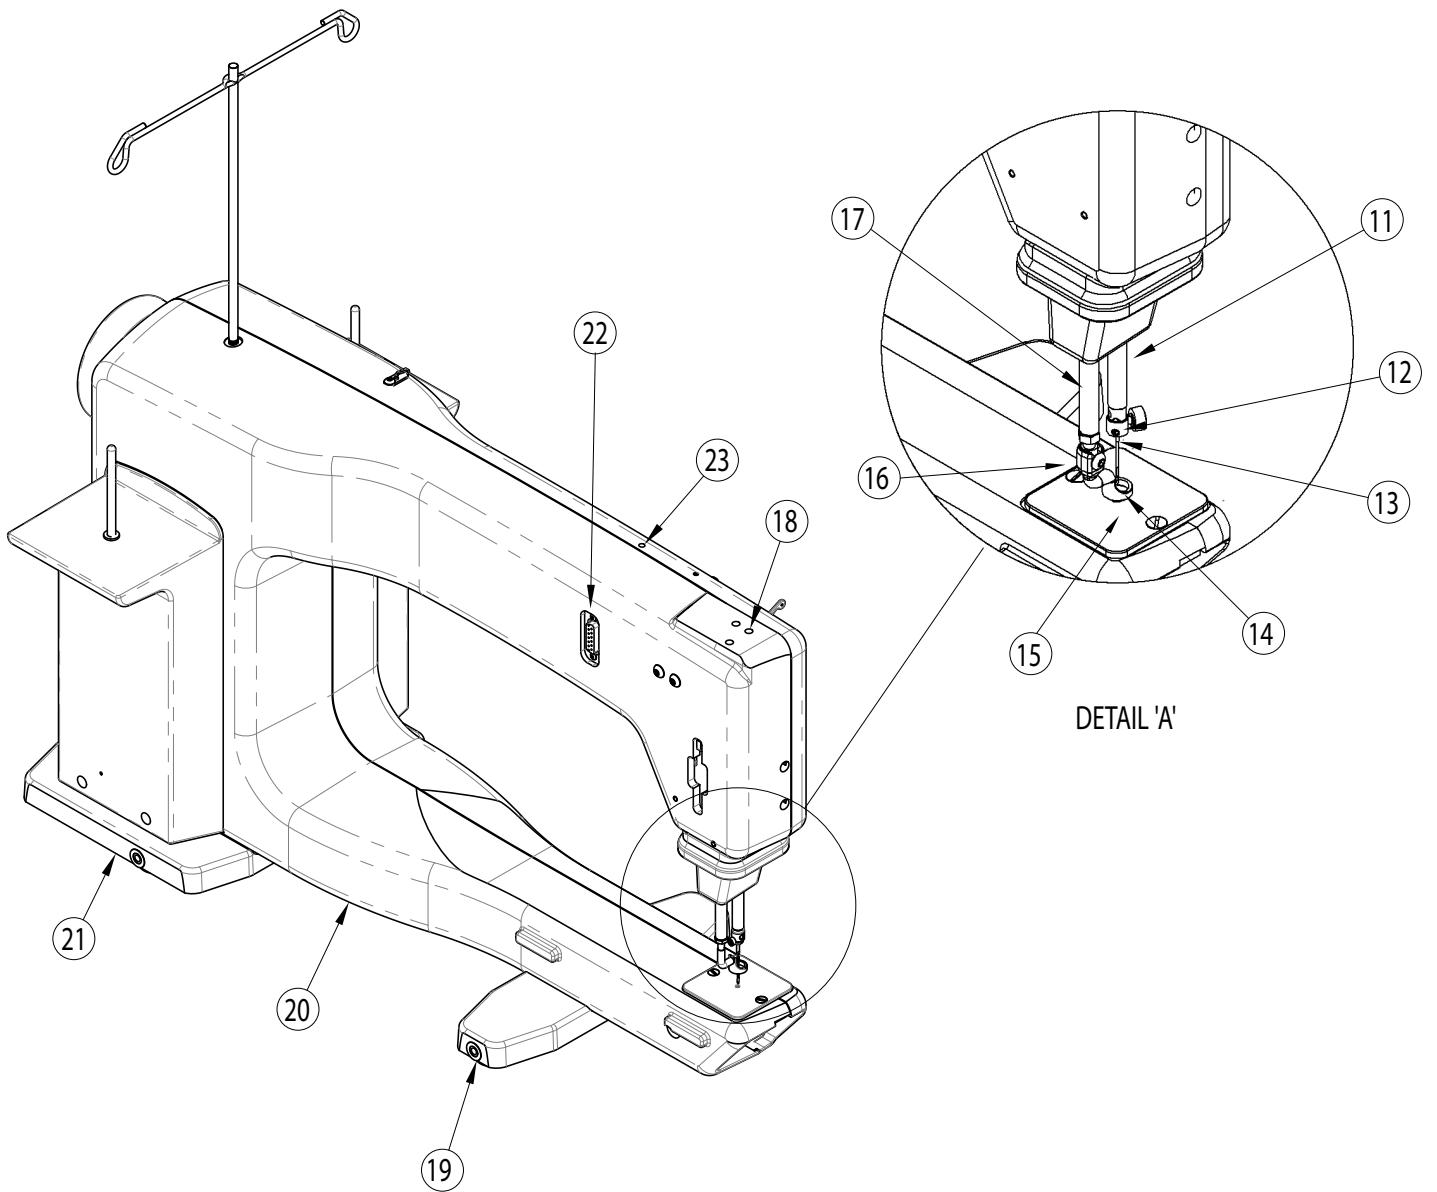

Figure 2
2. There are three holes on top of the machine head (see **page 10, Figure 2, #18**). Only the two holes that are in line with each other are used. Ignore the third hole located to the side of these two holes.
5. Plug the remaining cable end into the display connector located on the side of the machine (**page 10, Figure 2, #22**).